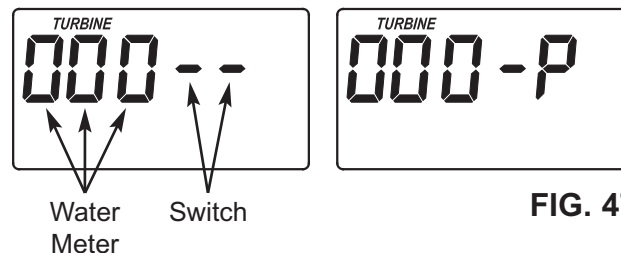

FIG. 47
3. The letter "P" and a dash (or dashes) indicate POSITION switch operation (See Figure 47). If the